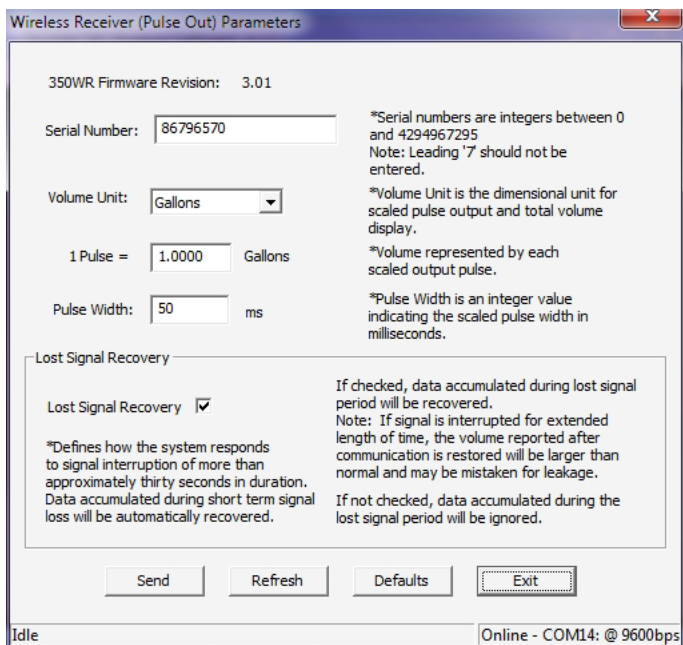

Figure 15: Receiver parameters
8. Program the wireless receiver using the Parameters screen in *Figure 15* as a reference.